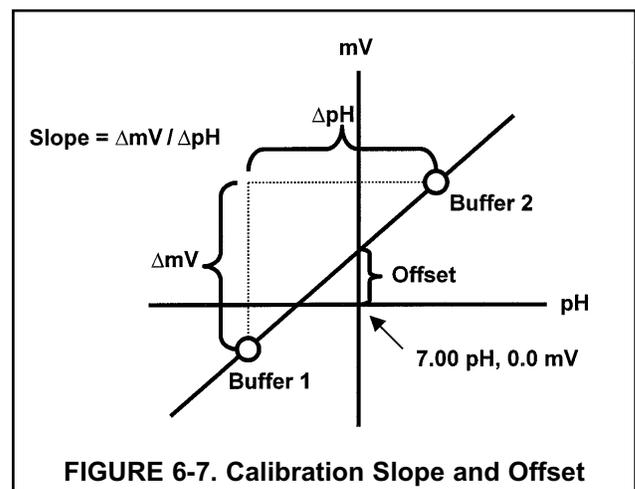

FIGURE 6-7. Calibration Slope and Offset
2. SLOPE AND OFFSET. Once the Solu Comp II successfully completes the calibration, it calculates and displays the calibration slope and offset. The slope is reported as the slope at 25°C. Figure 6-7 defines the terms.
2. **SLOPE AND OFFSET.** Once the Solu Comp II successfully completes the calibration, it calculates and displays the calibration slope and offset. The slope is reported as the slope at 25°C. Figure 6-7 defines the terms.